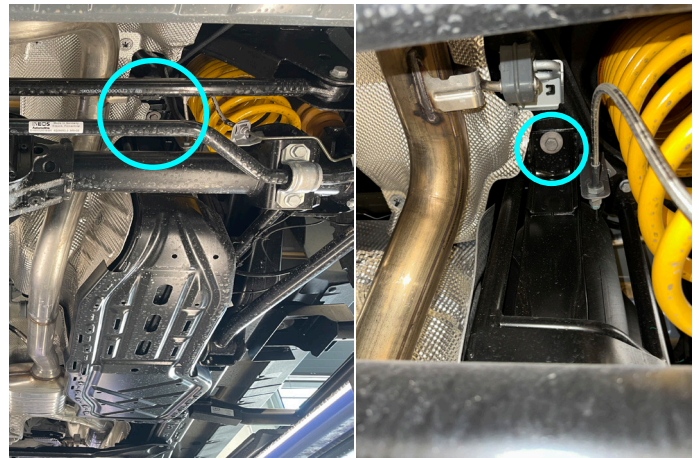

Fig. 4
4. Loosen, but do not remove, rear factory bolt as shown in fig.4